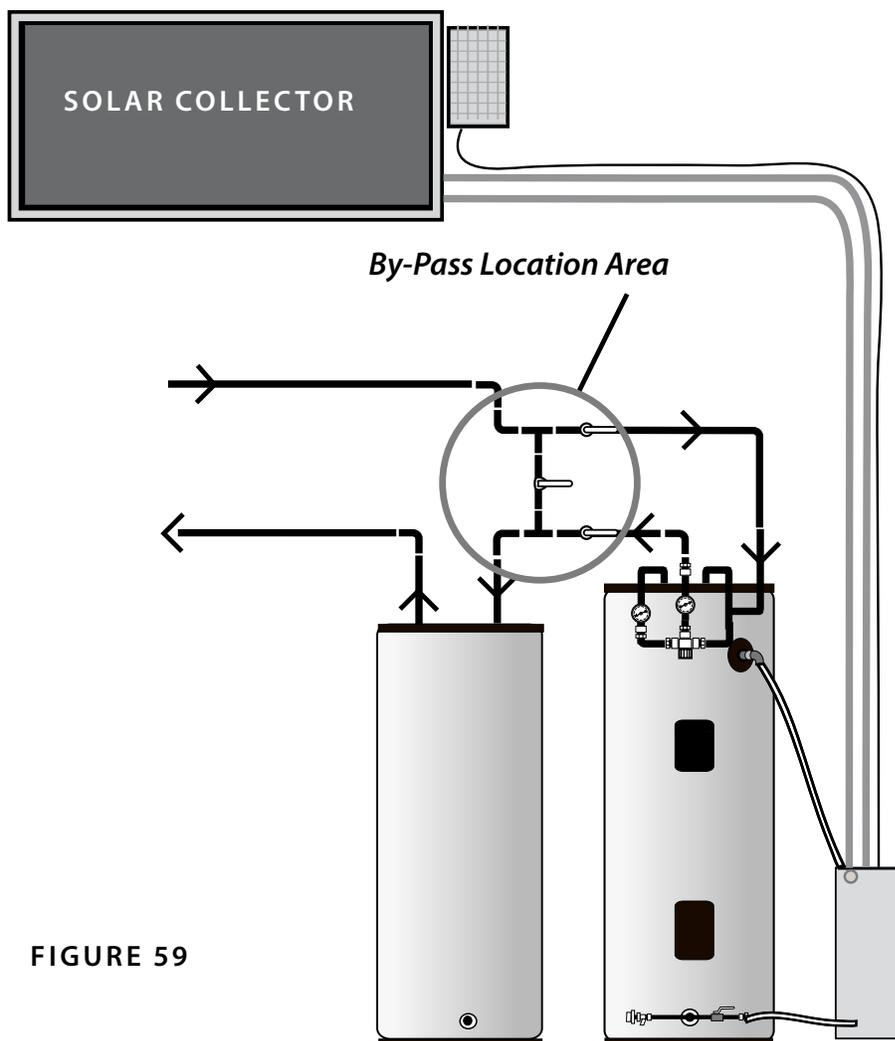

FIGURE 59
2. If the existing Water Heater is a Storage type, drain off approximately two (2) gallons of water using its Drain Valve.
3. Cut at least eight (8) inches out of the Incoming Cold Water Pipe.
- Referring to Figure 59, determine a By-Pass valve arrangement that will allow the *Solar Storage Tank* to be by-passed for repairs and for maintenance to the system when necessary.